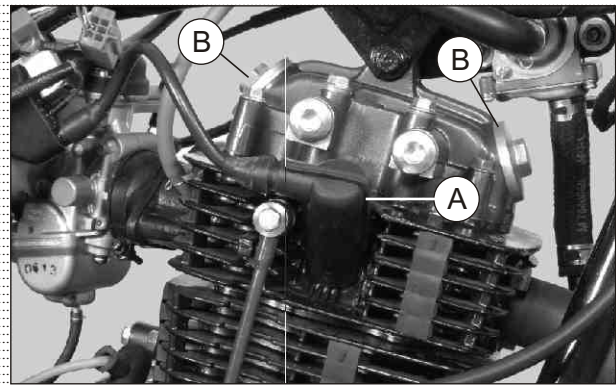

Fig. 2.46
- Disconnect HT (High Tension) card and remove the sparkplug (A). (Fig. 2.46)
- Remove both the cap inspection hole (B). (Fig. 2.46)